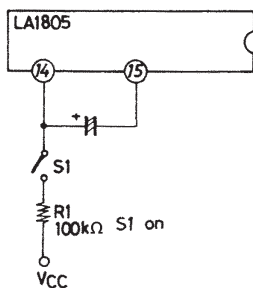

Figure 1 Forced Monaural Mode Setting Method
Figures 1 and 2 show how to cause the forced monaural mode to be entered.
(1) Connect pin 14 to VCC through a resistor of 100k Ω . (Turn ON the SW1 in Figure 1.)